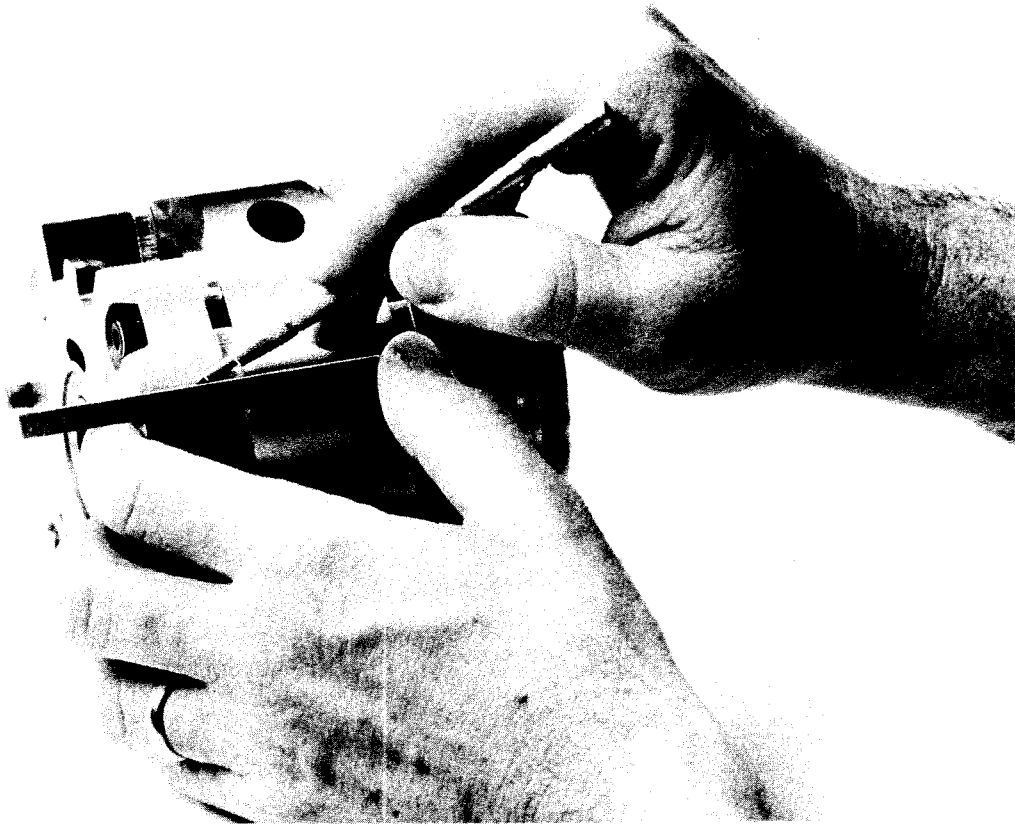

Figure 12 - Scribing the cartridge.
b. Scribe a line across the outer surface of the cartridge kit. (See Figure 12.) The scribe marking will provide a reference for parts during assembly.